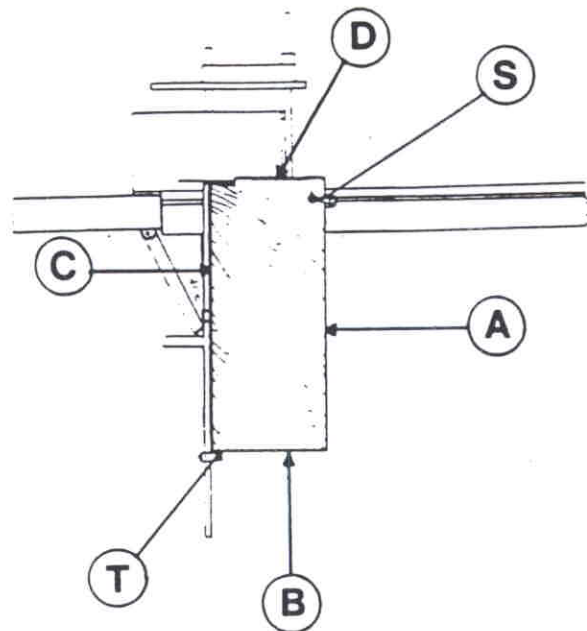

Fig. 44
- Turn panel 90° again: rest side (C fig.44) against aluminium fence and side (B) against stop (T) set according to cutting measure, then carry out cut (D).